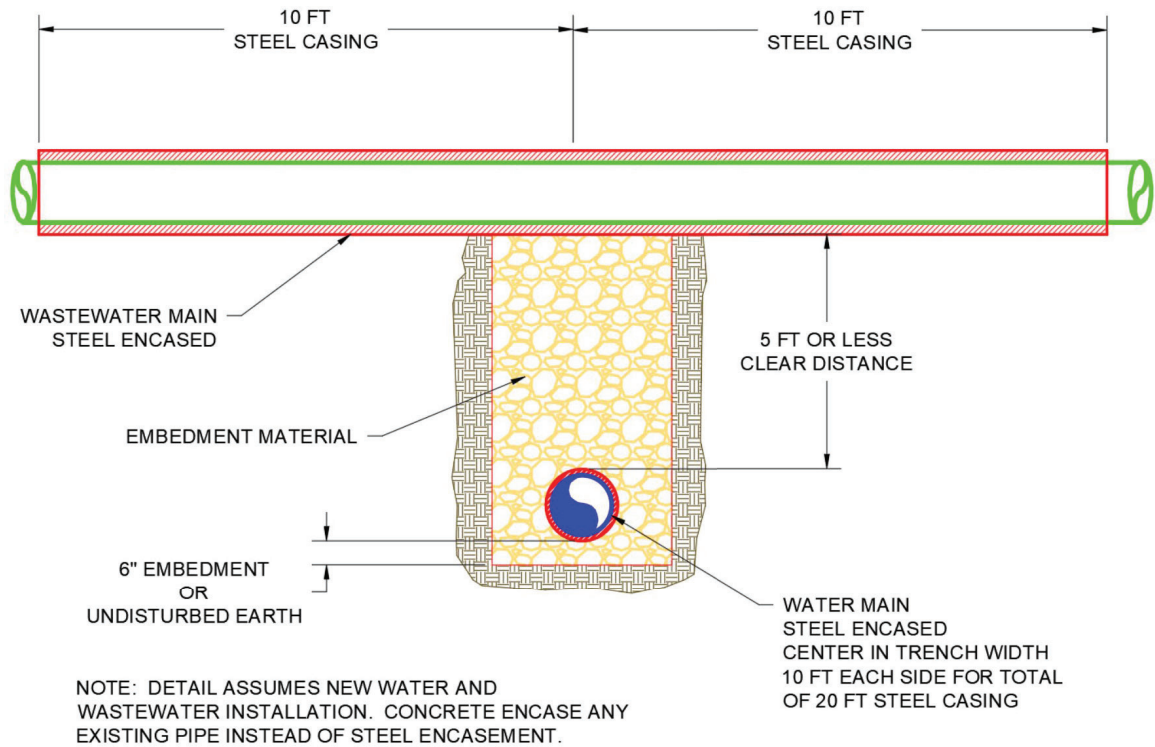

Figure 19 - Sewer Crossing Water
- 4.7. When a public wastewater main crosses the top of a public water main, steel encasement of both the public water main and public wastewater main is required a minimum distance of ten (10) feet each side of crossing. Embedment material or "Type-A" aggregate stone backfill is required under the crossing pipe and above the casing of the public water main. These crossing requirements must be indicated on all design drawings submitted for review and approval. If there is more than five (5) feet separation between the public water and public wastewater main, steel casing is only required for the public wastewater main. See Figure 19.